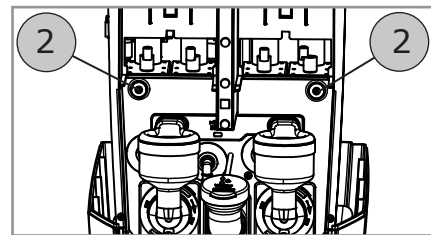

Figure 33
4. Remove the motor bridge by loosening its screws (2, figure 33) from the front side of the machine